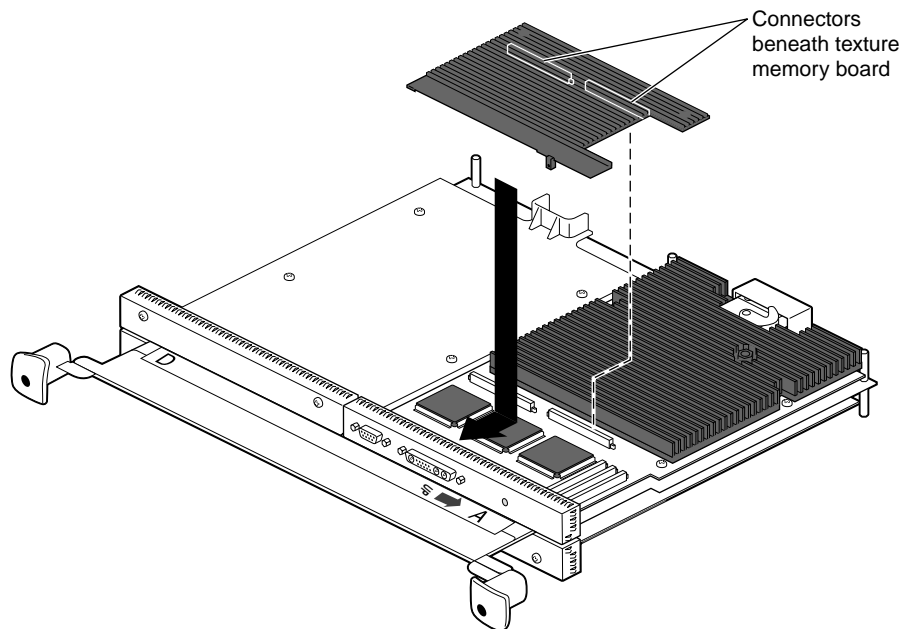

Figure 5-34 Installing the Texture Memory Option Board on the Octane/SI or SE Graphics Board
1. Align the texture memory option board above the graphics board as shown in Figure 5-34.